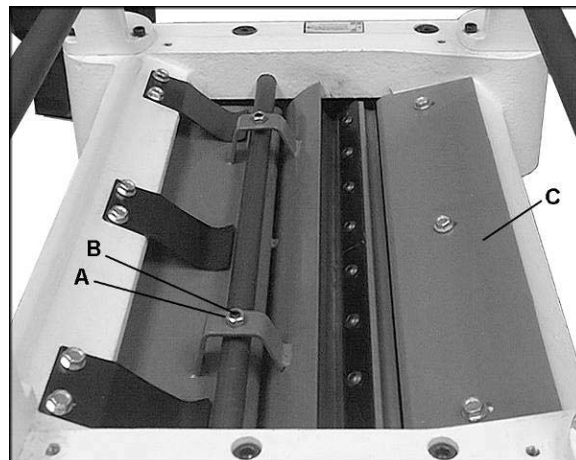

Figure 27
2. Loosen the lock nuts (A, Figure 27) at both ends of the chipbreaker, and turn the set screws (B, Figure 27) to raise or lower the chipbreaker as needed. The set screws should be turned the same amount.
3. When the chipbreaker contacts the gauge block, tighten both lock nuts (A, Figure 27).
The chip deflector (C, Figure 27) keeps wood chips from falling into the outfeed roller. The deflector should be set approximately 1/16" to 1/8" from the tip of the knives. Make sure the deflector is oriented so the bevel on its front edge matches the shape of the cutterhead.